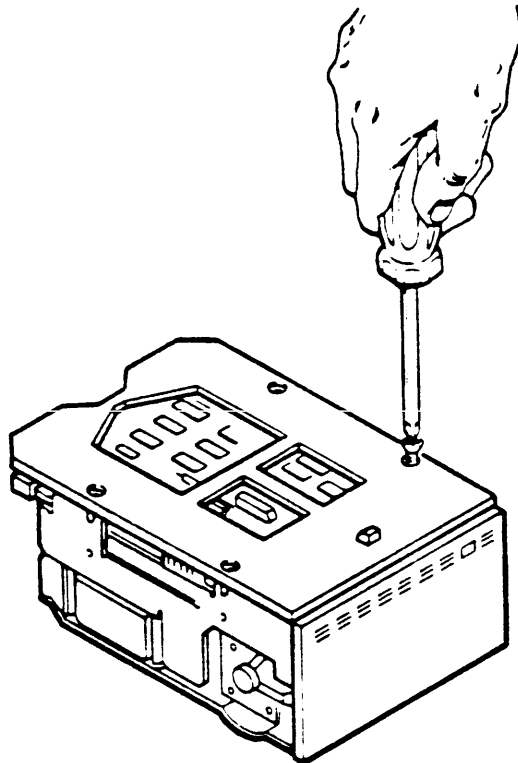

Figure 8-7 RD51 Disk Drive Skid Plate Removal
1. Remove the four phillips screws retaining the skid plate. Set the skid plate aside (Figure 8-7)